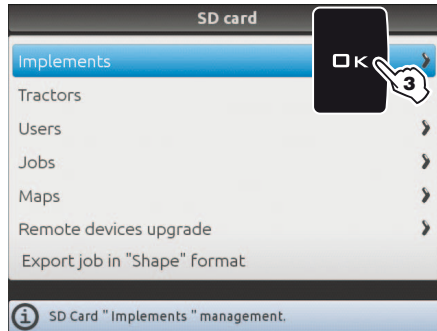

Fig. 279
Allows to transfer the saved data concerning **Implements, Tractors, Users, Jobs** or **Maps**, from the SD card onto the internal memory of Bravo 400S. The following paragraphs will use **Implements** as an example: the same procedure will be valid for all other cases (**Tractors, Users, etc.**, Fig. 279).
- 3 Select **Implements** (Fig. 279) and press **OK**.